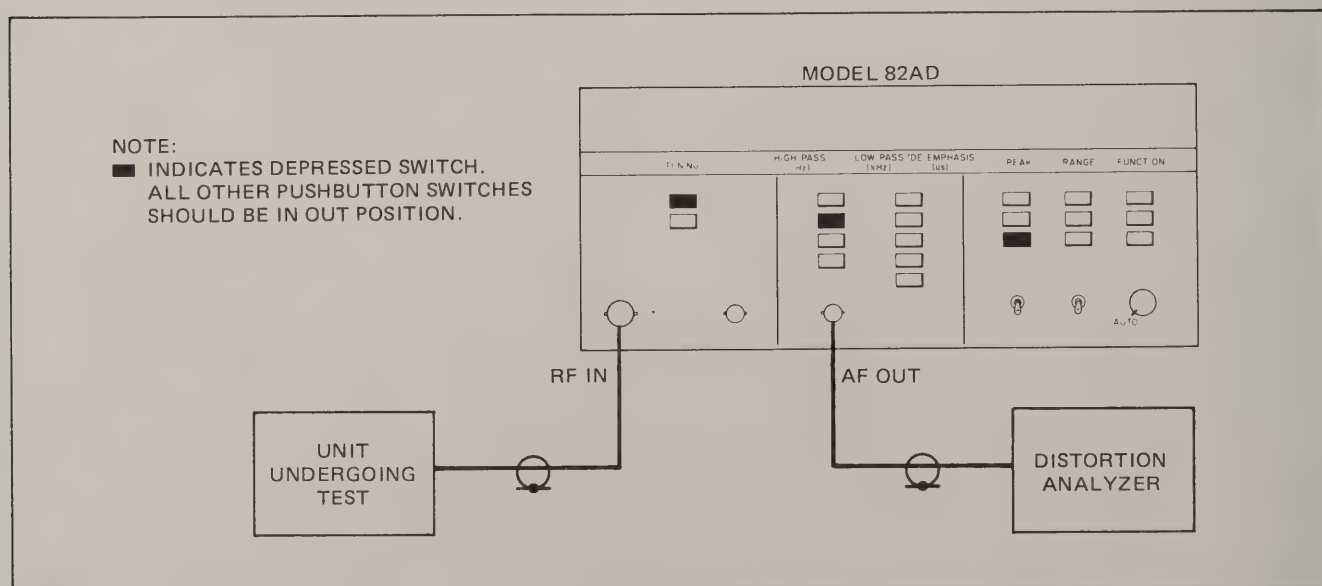

Figure 2-7 Distortion Measurements, Test Setup
**2-22. Distortion Measurements.** Because of the exceptional linearity of the detectors used in the Model 82AD, direct verification of the intrinsic distortion of the Model 82AD is not a simple measurement. Total harmonic distortion (THD) figures for the Model 82AD are derived analytically from linearity measurements of the individual detectors, as described in paragraph 2-41. The specified distortion is a worst case composite of all possible distortion sources in the Model 82AD. For distortion measurements, connect the equipment as shown in Figure 2-7. Select the appropriate full-scale range and measurement bandwidth. Then, proceed according to the instruction manual for the particular distortion analyzer chosen.